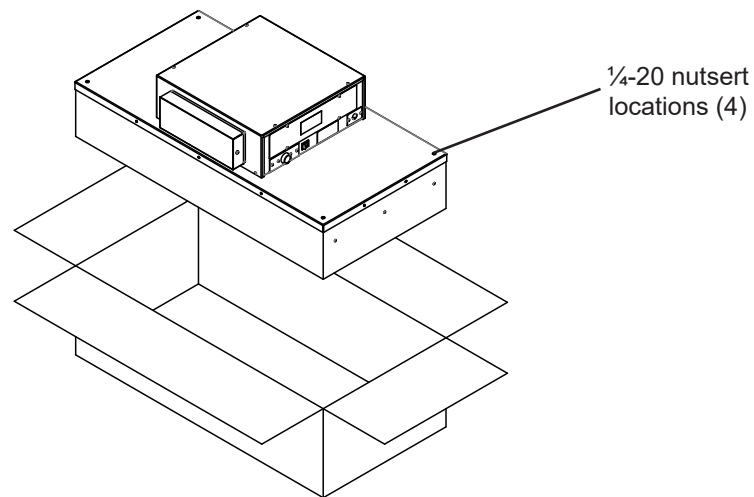

Figure 1: Unboxing
Step 1. Carefully remove the unit from the shipping carton and inspect for any damage that may have occurred during transportation. (See Figure 1.)
Step 3. If using rigidly supported grid (usually 2" (50 mm) or wider), raise unit through ceiling and lower onto the gasketed grid. If using a flexible grid (typically supported with wires), the unit must be secured to an engineered support system with eyebolts, s-hooks, and chain. Screw the four eyebolts into the nutserts on the lid assembly before lifting into an overhead position. (See Figure 1, above.)